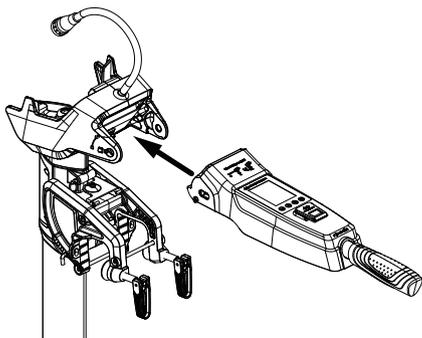

Figure 2-2
1. Install the tiller to the machine (Figure 2-2).